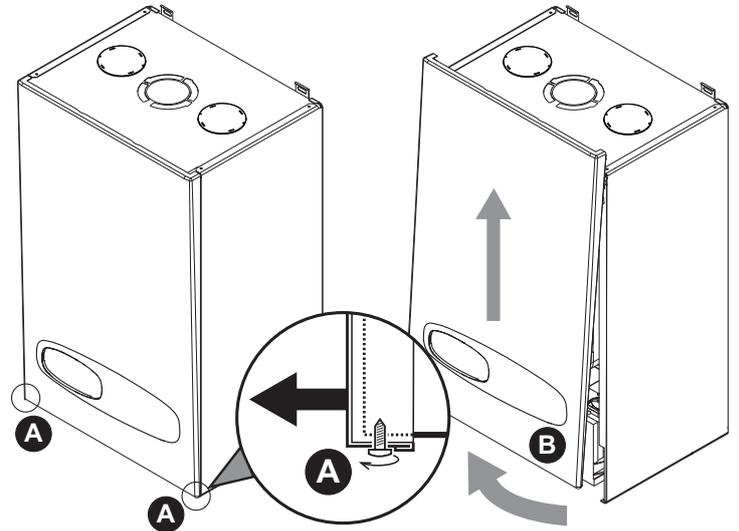

fig. 25 - Front panel opening
- Partially undo the screws **A** (see fig. 25).